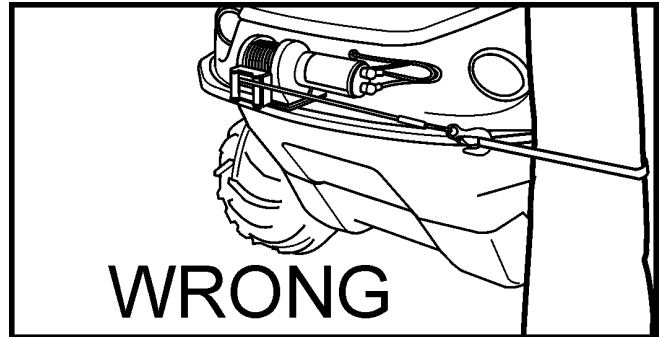
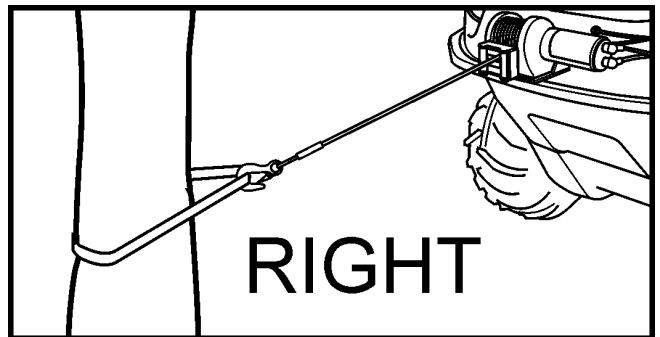

Figure 11-21. Incorrect positioning for continuous pulls.
Figure 11-22. Correct positioning for continuous pulls.
11. Avoid continuous pulls from extreme angles as this will cause the wire rope to pile up at one end of the drum (Figure 11-21 & Figure 11-22). This can jam the wire rope in the winch causing damage to the wire rope or the winch itself.